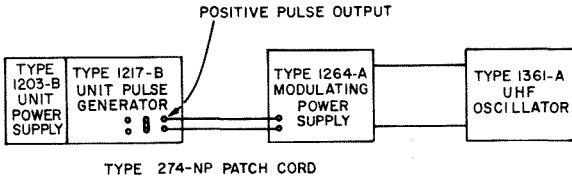

Figure 5. Connections for Pulse Modulation.
**2.4.4 CONNECTIONS TO DRIVER.** Figure 5 illustrates a typical setup of the Type 1264-A using an external driver (refer to paragraph 1.3.1).